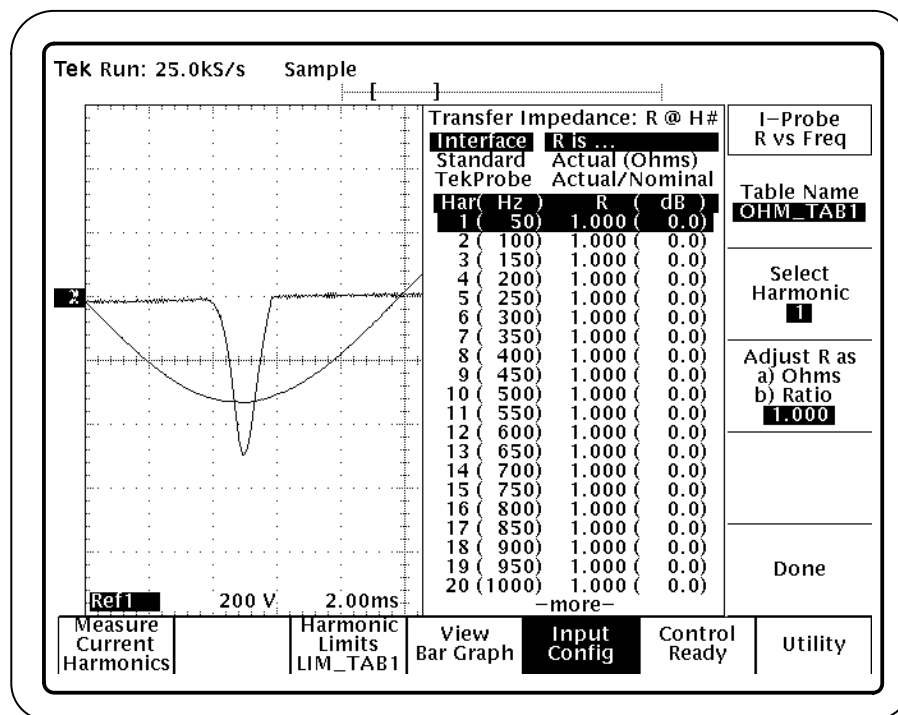

Figure 36: I-Probe R vs Freq configuration menu
10. Press Input Config (main) → I-Probe R vs Freq (side). Figure 36 shows the I-Probe R vs Freq configuration menu.